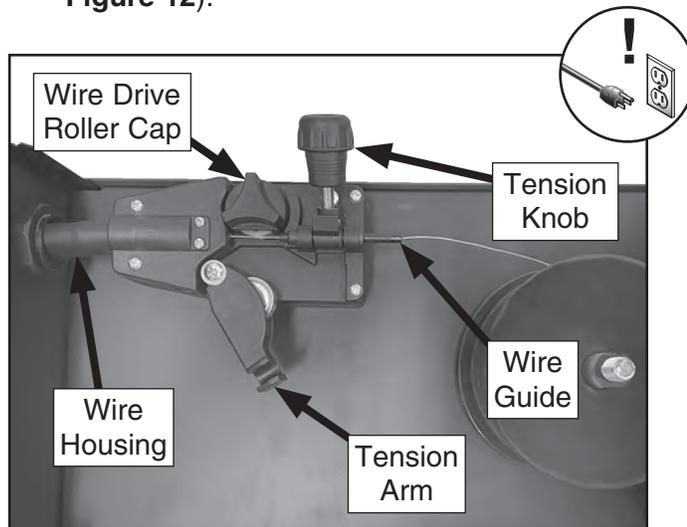

Figure 12. Wire installed in wire feed driver.
3. Move tension knob up. Then move tension arm away from wire feed roller (see **Figure 12**).
4. Remove end of wire from spool while pinching roll to prevent unraveling. Cut bent end of spool. Slide wire through wire guide along wire drive roller and into wire housing (see **Figure 12**).